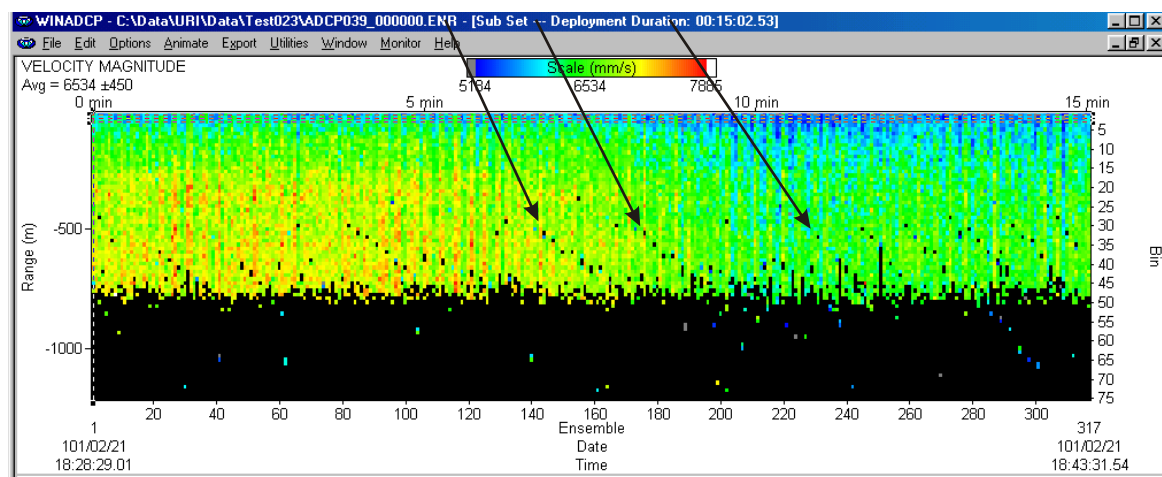

Figure 24. Repeating Pattern of Interference Terms in the Horizontal Magnitude
- c. You must review the vertical and error velocities for reasonableness. You will want to inspect them for unreasonable spikes (consistent spikes at the same depth cell on every ensemble, or spikes that match up with the echo intensity spikes), see Figure 24. If there are spikes then the interference is biasing your data. You must either find or disable the external system that is interfering or you must return the ADCP to TRDI for repair.